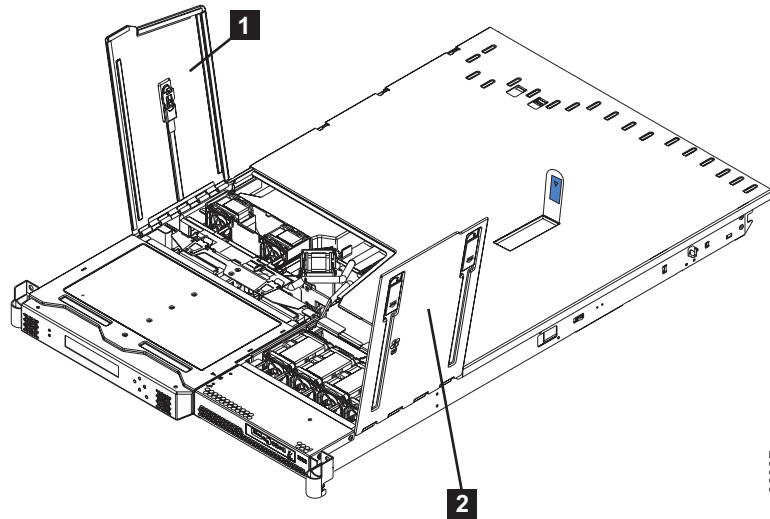

Figure 50. The SAN Volume Controller 2145-8F2 with fan doors open
4. Close the fan door **1** and replace the SAN Volume Controller 2145-8F2 in the rack. See Figure 50 on page 219.